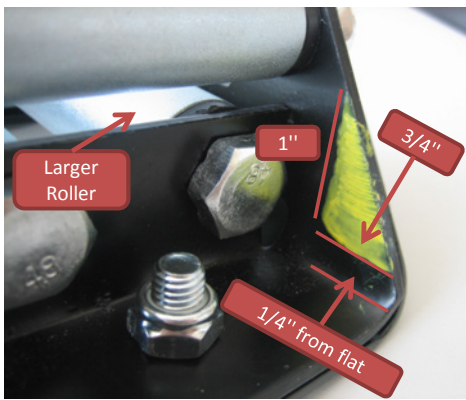
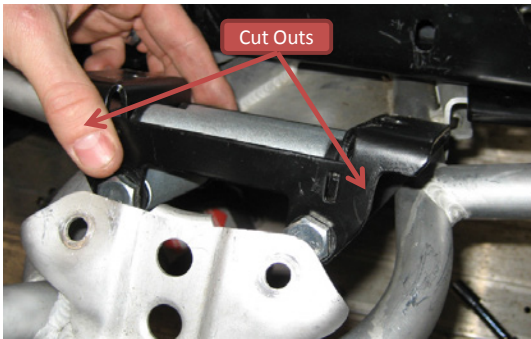

Figure 17
Figure 18
- The roller fairlead used with steel cable requires a slight modification to the sidewall to best fit the Renegade bumper. Figure 17 shows the general cutout guidelines for the roller fairlead. Using a metal saw or Dremel, cut out this area on both sides (See figure 18)
- After making the notches in the roller fairlead side wall. Lay the roller fairlead onto the aluminum bumper such that the knock outs face upward as seen in Figure 18.